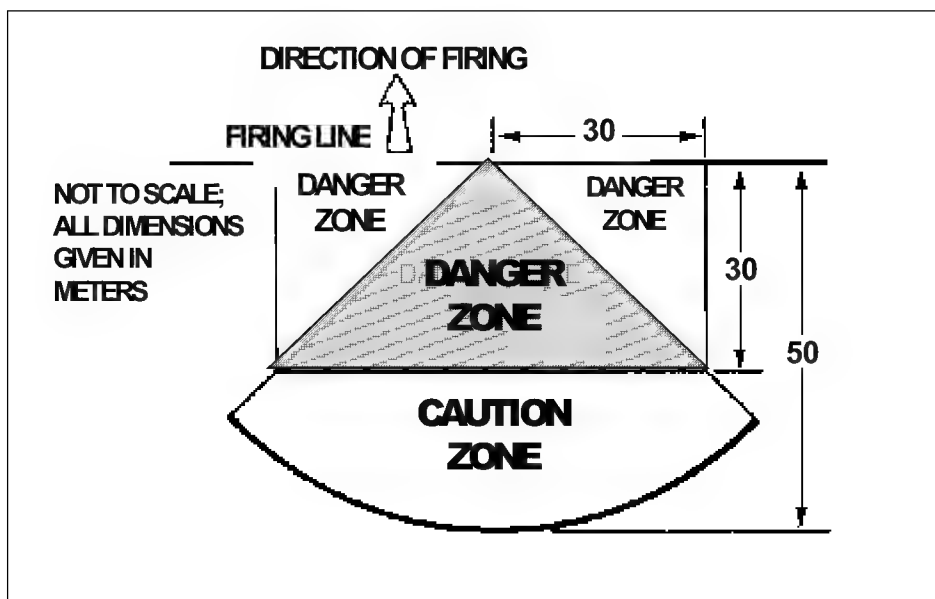

Figure F-1. Dragon backblast area.
- (1) Avoid looking at the sun, flares, lasers, or searchlights while looking through the sight. Doing so magnifies their effect and could severely burn your eyes.
- (2) The warhead will not arm within 65 meters, so try to avoid firing it within that range.
- (3) Due to the risk of an accidental discharge, use extreme care when mating the sight to the round.
- (4) Avoid going or placing any equipment or other items forward of the firing position.
- (5) Never perform PMCS when the sight is mated to the round.
- (6) If you are within 50 meters of a Dragon when it is fired, you must wear your earplugs.
- (7) Never fire the Dragon over friendly soldiers or vehicles.
c. The Dragon backblast area extends 50 meters to the rear and 30 meters to the flanks of the launcher (Figure F-1, page F-2). This area is divided into two zones: a danger zone and a caution zone. Trainers must keep both zones clear during training.
(1) The *danger zone* extends 30 meters to the rear of the launcher in a 90-degree cone. Within this area, the blast, flame, and flying debris could cause deaths or serious casualties, so personnel must avoid this zone.
(2) The *caution zone* extends an additional 20 meters to the rear and 30 meters to the flanks of the danger zone. Personnel should try to avoid this area as well. To protect their eyes from flying debris, they *must* face away from the rear of the Dragon. To protect their ears from the blast and overpressure, they must wear earplugs.
Safety precautions apply in training just as they do during live firing. For example, during training, soldiers must practice and observe the same backblast precautions they have to observe during live fire (Figure F-1). Even the trainers (DFTT and MILES) generate sound and pressure levels that can damage hearing. Consequently, anyone in or near the firing area must wear proper hearing protection.